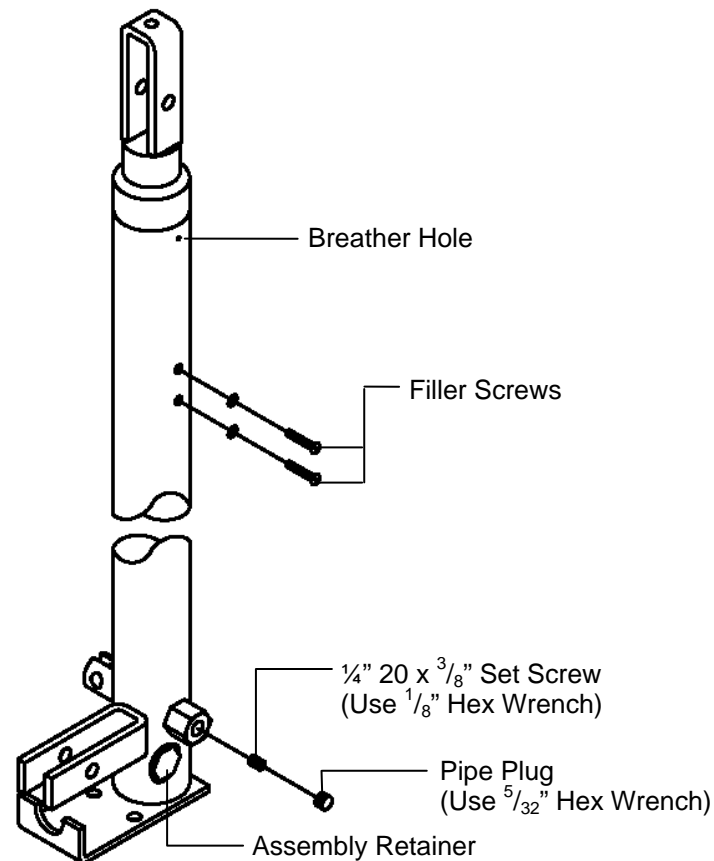

Figure 1
If this procedure does not correct the problem; loosen assembly retainer (see Figure 1) and pump the pedal once or twice. This will cause the oil to flow, breaking any air lock that might exist. Re-tighten the assembly retainer before using the unit.
- (1) Using the adjustment screw that is part of the Pumping & Release Valve Rebuild Kit (Key C3). See Figure 1 for a detail of this part.